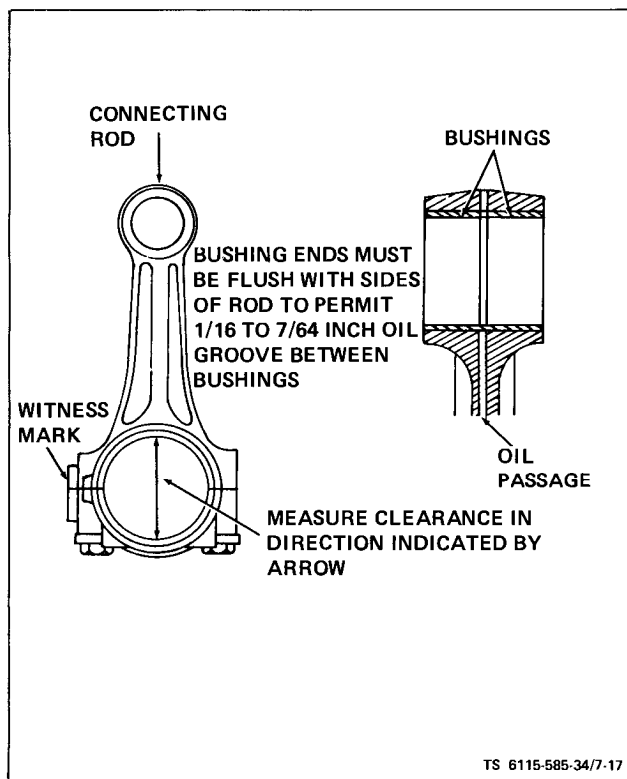

Figure 7-17. Connecting Rod and Bushings
(4) Connecting Rods (see figure 7-17). Clean connecting rods and check each for defects. Check connecting rod bushings for proper clearance with piston pin. Clearance is given in Table 1-2. If bushings (13, figure 7-14) are excessively worn, press them out and install one new bushing from each side of bushing bore. Press new bushings only until flush with sides of rod to leave  $1/16$  to  $7/64$  inch oil groove in center. Ream bushing I.D. to obtain the proper clearance. Check bore in connecting rod. Bore must be open. Check connecting rod alignment on a standard alignment fixture.
(1) Hone cylinder walls. Clean and oil the cylinder walls. Install each piston in proper cylinder using a suitable installer. Each piston assembly should be installed with notch on piston toward front of engine. The notch on the circumference of the closed end of the piston should be located closest to front of engine.
(2) Position each connecting rod on crankshaft and oil the journal and install rod cap with bearing half. When installing rod cap, position so raised witness mark on the forging matches the mark on connecting rod. See figures 7-17 and 7-18. The piston witness mark should face front and rod witness marks toward camshaft side of engine.
(3) Tighten capscrews to specified torque. See table 1-1.
(4) Turn engine over by hand to see that all bearings are free.